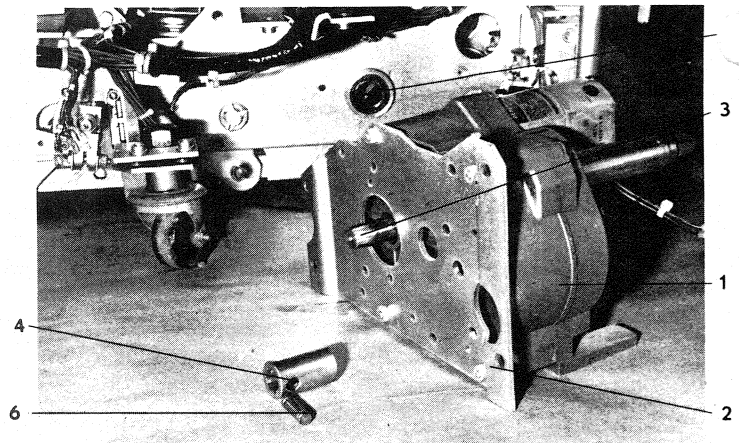

Fig. A8 Spring Charging Motor
Cut the two motor leads at the butt connectors (or remove the motor leads from the terminal block if installed). Remove the four bolts holding the motor bracket, (2) Fig. A8, to the breaker frame. Withdraw the spring charging motor and mounting bracket from the breaker.
Examine the spline adapter, (4) Fig. A8, that the output shaft of the motor engages. If the spline adapter is damaged, remove it by removing the “star retainer” and the wind shaft drive pin. NOTE: To gain access to the “star retainer” the phase 3 interrupter assembly and phase 3 wire cover must be removed.